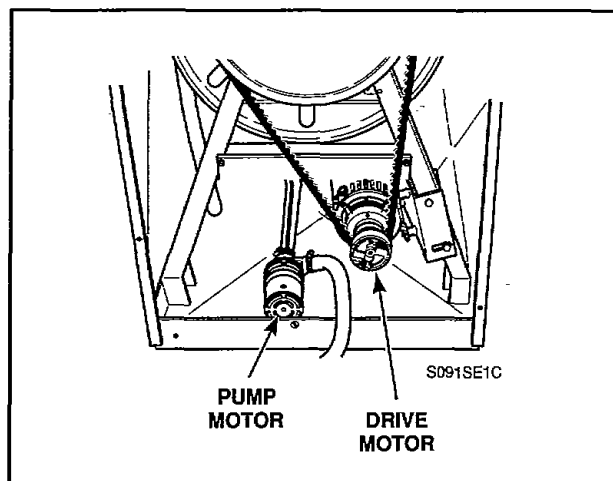

Figure 60
51. PUMP MOTOR (Refer to *Figure 60*)
52. DRIVE MOTOR (Refer to *Figure 60*)